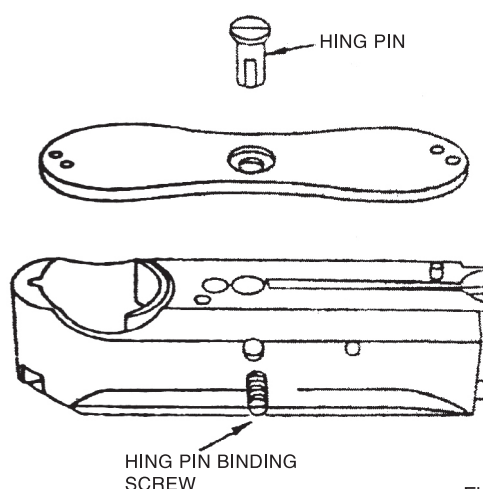

Fig.30
2. Loosen hinge pin binding screw shown in Fig.30 and by lifting upward, remove needle plate and hinge pin.
2. 松开图30所示针板销固定螺丝，然后取下针板销和针板。